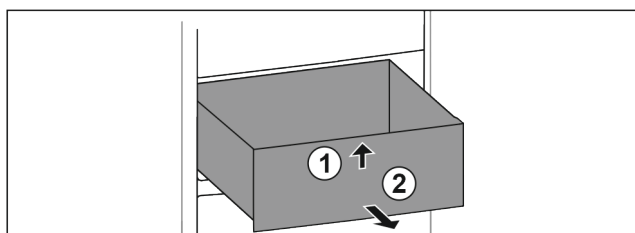

Fig. 78
- Lift up drawer at the front. Fig. 78 (1)
- Remove drawer to the front. Fig. 78 (2)